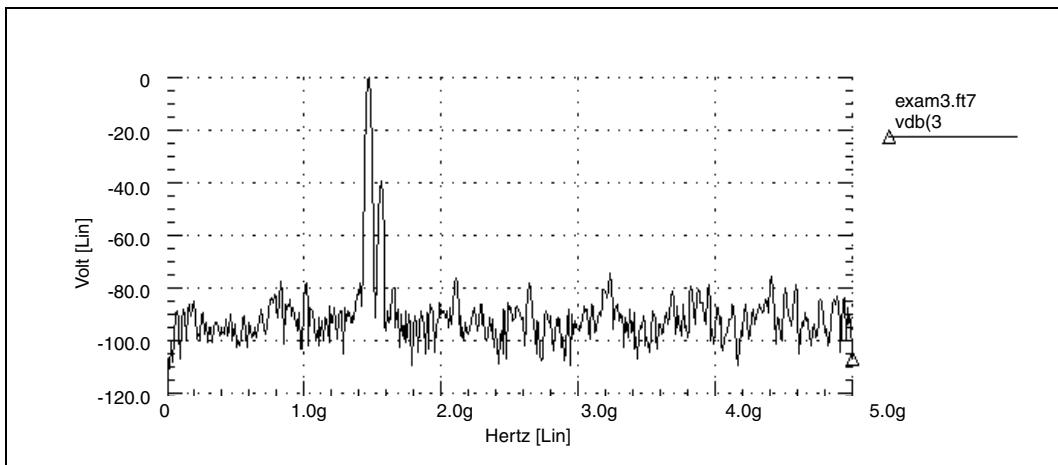

Figure 78 Mixer Output Spectrum, Kaiser-Bessel Window
Figure 71 shows the rectangular window. Compare this with the spectra of the output for all FFT window types, as shown in Figure 72 through Figure 78. Without windowing, HSPICE or HSPICE RF does not detect the weak signal because of spectral leakage.
- The final two windows (Figure 77 and Figure 78) use the `ALFA=3.0` parameter, which is the default value in HSPICE or HSPICE RF. These two windows also produce acceptable results, especially the Kaiser-Bessel window, which sharply separates the two tones, and has a noise floor of almost -100-dB.